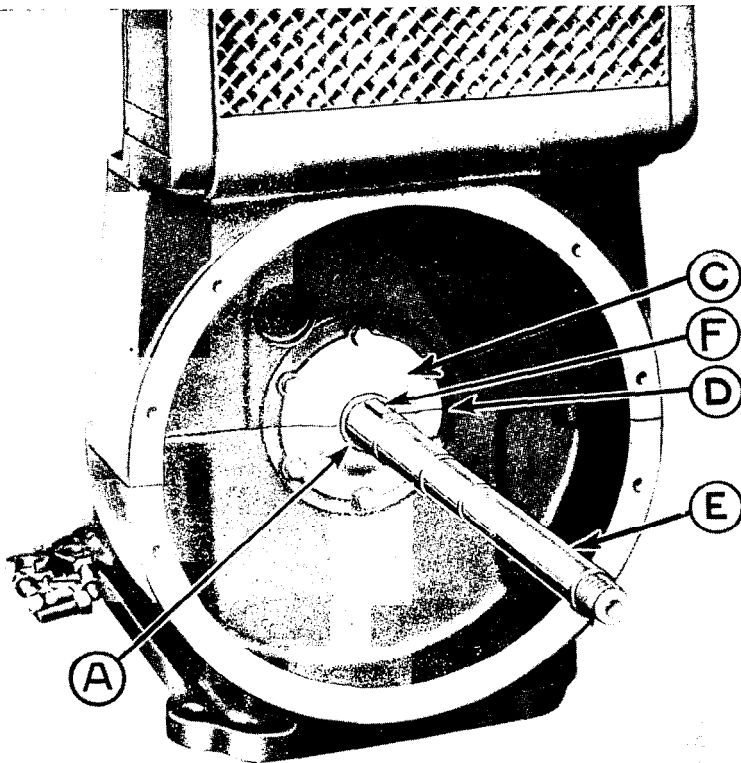

Figure 33
c. *Split Covers (oil retainers)*. The split covers, which hold oil in engine oil base, are visible after flywheel has been removed (Fig. 33). The split covers are held in place by six cap screws, and are fitted with copper asbestos packing washers. Clearance between crankshaft and split covers should be 0.004 to 0.006 inches. If an oil leak develops through the split covers, drain the crankcase, and remove the upper half of the split cover. Replace the gasket and washers if worn. An oil leak through the cap screws can be checked by removing each of the screws and coating the threads with shellac.